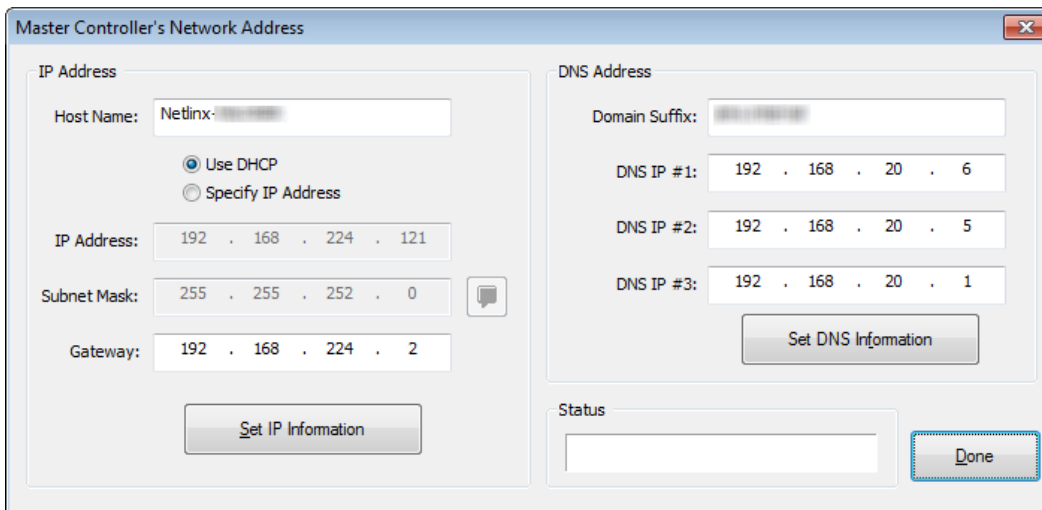

FIG. 30 Master Controller's Network Address dialog
1. Select **Options > Master's Network Address** to open the *Master Controller's Network Address* dialog (FIG. 30):